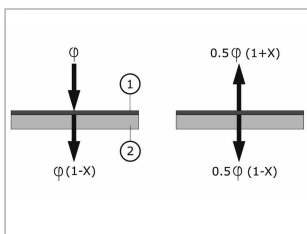

Figure 1
The HFP01SC Self-Calibrating Heat Flux Sensor is primarily intended for high accuracy heat flux measurement studies within the soil medium it is buried. The sensor incorporates a passive thermopile detector embedded within a thin ceramic plastic composite body, with an integrated thin film heating element mounted atop the sensors composite body. The HFP01SC outputs a linear millivolt signal generated by the differential temperature across the sensors body and proportionate to the local soil heat flux. The heating element can be cycled on/off at user defined timing intervals to perform an in-soil calibration check (see figure 1), thus allowing the user to derive sensor calibration factors ideally matched to the soil conditions at the time of measurement; implicitly cable connection, data acquisition and data processing are also tested. For certain application environments, the user may wish to consider the installation of two HFP01SC sensors; sensor redundancy offers the possibility of improved spatial averaging and QA of the processed measurement result. A copy of the HFP01SC operations manual is available in PDF format upon request. Hukseflux offers program code for Campbell Scientific CR10X and CR1000 data logger models free of charge, for ease of intergration.
- ◀ Figure 1 (Left): Explanation of the self-calibrating principle: See typical heat flux situation  $\phi$  left. On the right, the HFP01SC integrating heating element (1) is activated, generating a known heat flux pulse  $\phi$ . The response of the heat flux sensor is measured. Ideally 50% of the generated flux  $\phi$  passes through the sensor (150  $\text{W}/\text{m}^2$  nominal). In the case of non matching thermal conductivities, a deviation (X) will occur. The essence of the approach is that the flow is divided in an upward flow through undisturbed medium (1+X) and a downward flow through the heat flux sensor (a disturbance) plus underlying medium. The (1-X) signal level however still represents a 0.5  $\phi$  heat flux level of the normal situation of the illustration depicted left.